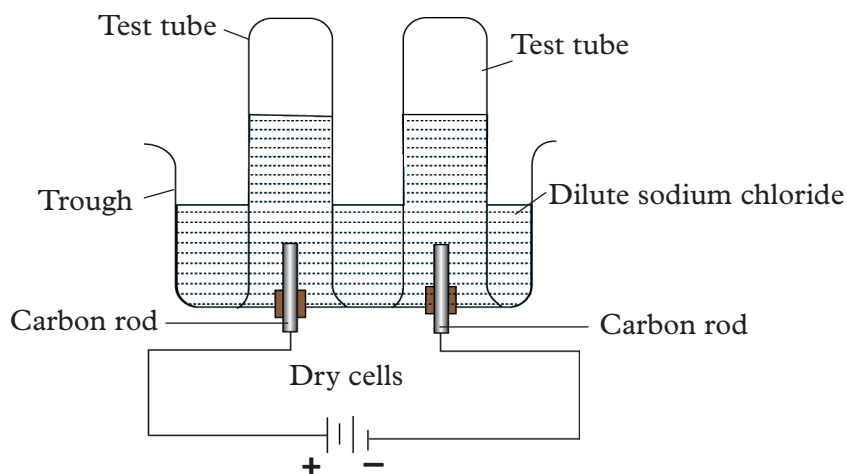

Fig. 8.4: Electrolysis of dilute sodium chloride solution
1. Set up the apparatus as shown in Fig 8.4.